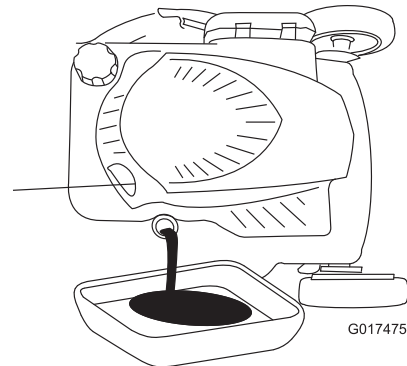

Figure 23
3. Tip the machine onto its side, with the dipstick down, to drain the used oil out through the oil-fill tube (Figure 23).